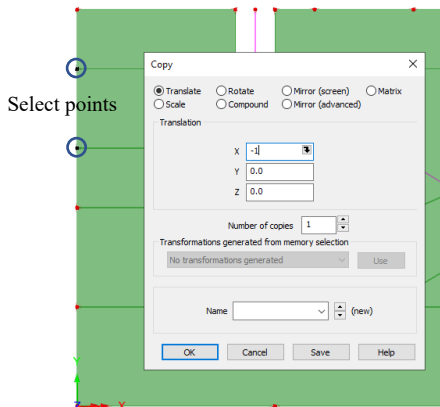

Figure 14: Copy points for phreatic surfaces in excavation
- Using **Geometry > Point > Copy...** set the X field to **-1** and click **OK** (figure 14).